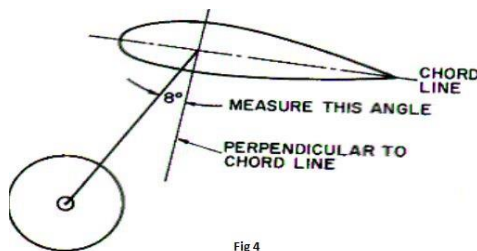

Fig 4
- Measure the angle of rake forward when the gear is down, relative to a vertical through the wing chord. Example shown in **figure 4** shows 8 degrees.